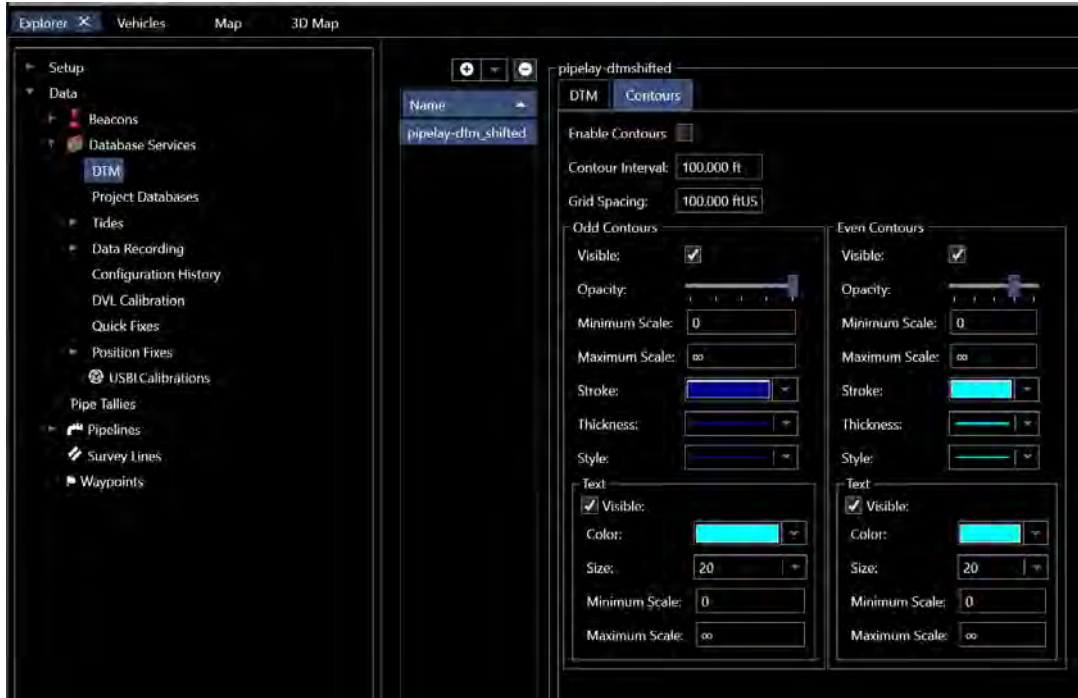

FIGURE 14-90 DTM CONTOUR CONFIGURATION
2. In the data grid listing DTMs loaded into NavView by name, select the DTM whose contour configuration is to be edited and click the **Contours Tab** (see Figure 14-90)